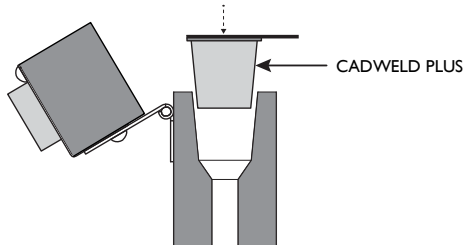

FIGURE 10
2. Insert CADWELD PLUS welding material cup into mold. See Figure 10.